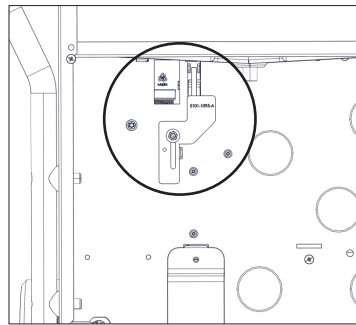

Fig. 6: Upper cover plate in original position
2. Undo the screw on top of the protective plate next to the microswitch. Slide the plate upwards to cover the microswitch, then re-tighten the screw (Figs. 6 and 7).